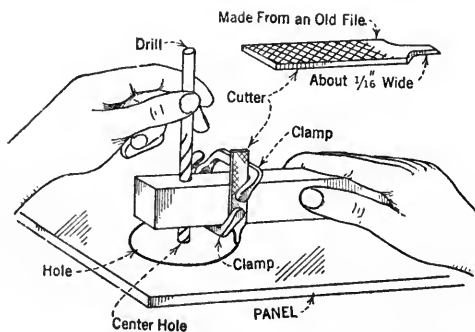

FIG. 4
**H**ERE'S an idea for a simple home made rig for cutting spiderweb coil forms, bezel holes in panels, or holes for the Ballantine vario-transformers. First drill a center hole with about a  $\frac{3}{8}$ -inch twist drill in the panel, then drill a hole in a piece of hard wood about  $\frac{3}{8} \times \frac{3}{4} \times 6$  inches long. Remove the drill from the brace or hand drill and leave the drill in the piece of wood. Next take a small file and grind the end down as shown in the sketch, Fig. 4, and clamp the file to the piece of wood with two five-and-ten-cent-store clamps. Fit the drill in the center hole in the panel and go round and round and back and forth, holding the drill in the left hand and the stick in the right. A stick 6 inches long will give you plenty of leverage. Cut from both sides and the result is a clean cut hole and, best of all, it is round. I can cut spiderweb forms with this which have one tooth longer than the others for support and all are the same size and look like factory goods.